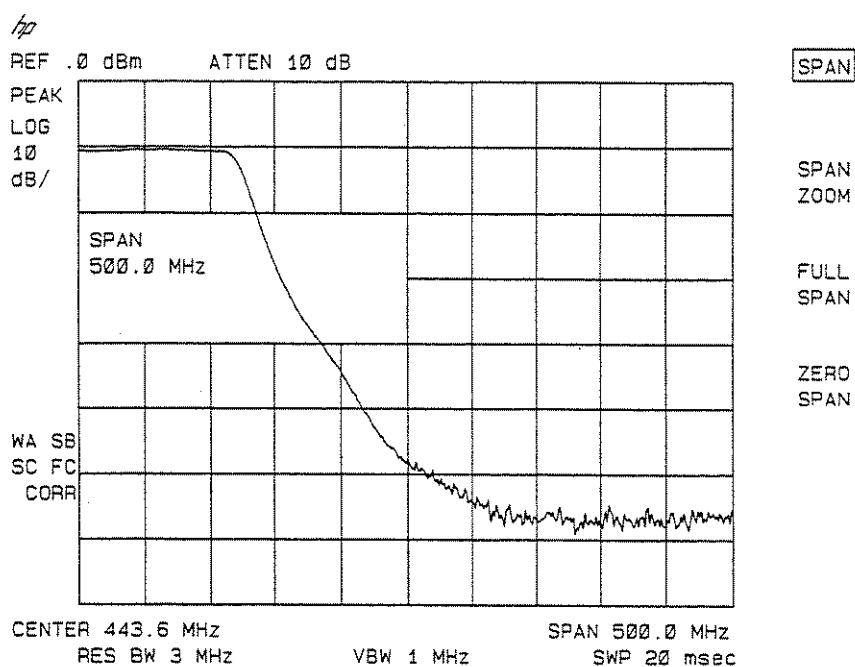

Figure 2-38. Spectrum Analyzer Settings According to the Measurement Requirement
5. Since we are only interested in the rejection of the low-pass filter, tune the spectrum analyzer's center frequency so that the rolloff of the filter comprises the majority of the trace on the display (see Figure 2-38).